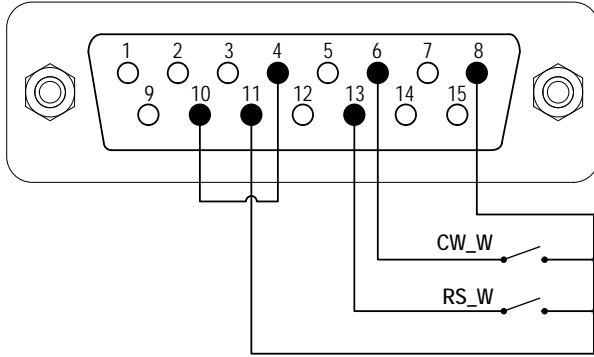

Figure 22. Logic Level 2 Control with Internal 12V Power Source
- 1) Switch the power off. Wire the DB15 connector as shown in Figure 22 or Figure 23, and connect it to the DB15 port on the rear of the pump.